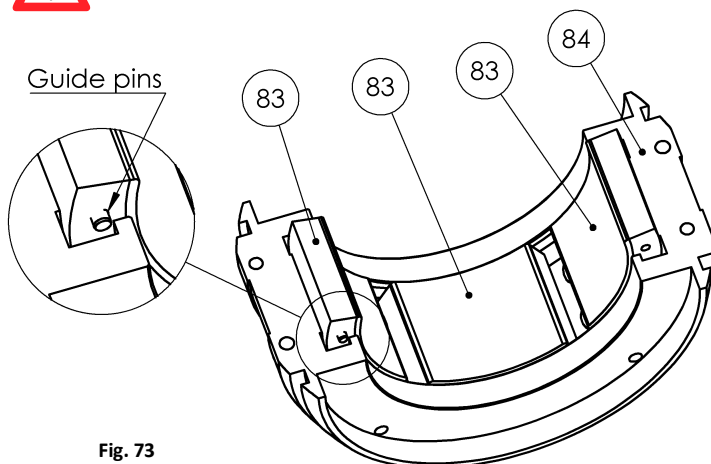

Fig. 73
- Assembly the journal pads (83) separately on the upper and lower part of the bearing shell (84 and 86). The pads are held in place by the guide pins (Fig. 73).